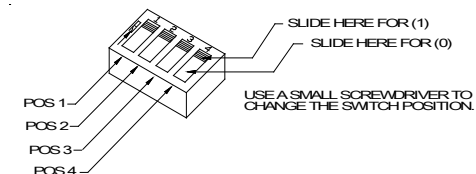

Figure 2: Switch (SW1) Settings
Set desired dBA sound output level as follows (refer to Figure 2 and Table 4).
STEP 2: Set desired alarm tone as follows (refer to Figure 2 and Table 5).
MT4-115WH Multitone Signals are field set for any one of eight alarm tones by setting a four-position switch (SW1) as shown in Figure 2 and Table 5. Use SW1 POS 2, 3, 4 to select the desired alarm tone (refer to Table below).